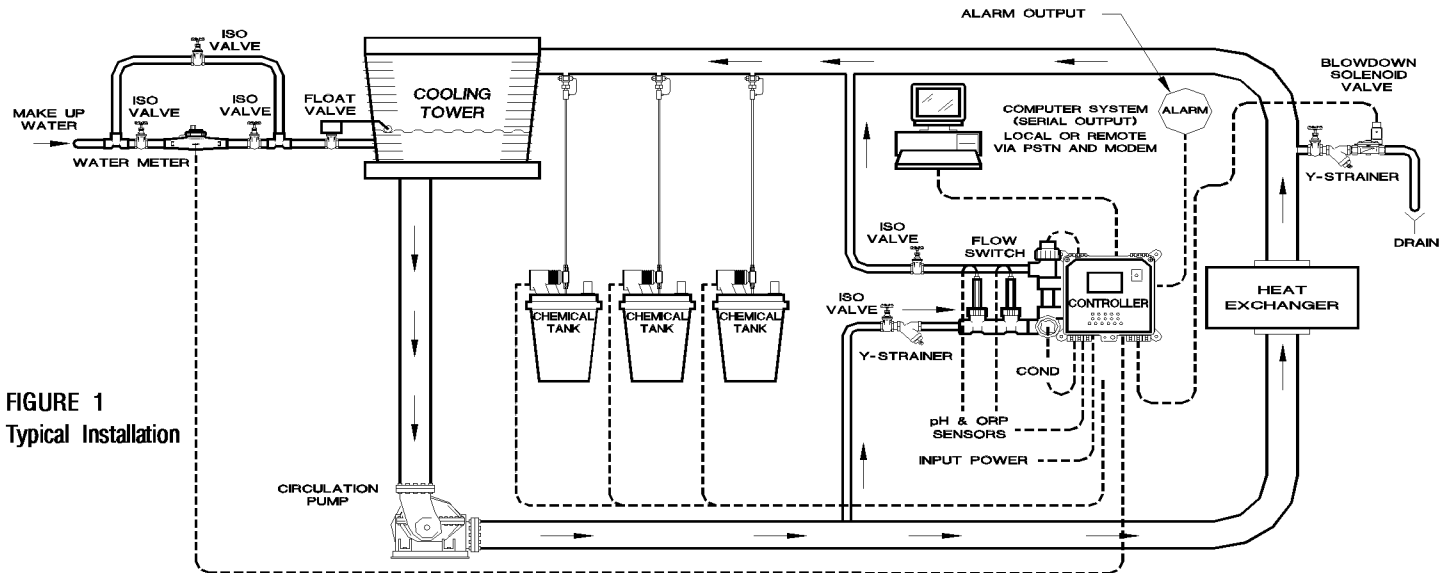

FIGURE 1
1. Install sensors or sample stream flow assembly at some point before chemical injection points, where chemical and water are thoroughly mixed. Refer to Figure 1.
5. Install hand valves on each side of the flow assembly for easy isolation and removal of sensors and strainer screens (see Fig. 1).
Controller should be per installation diagram (see Figure 1). Make sure all fittings and connections are secure:
8. External alarm, if controller incorporates alarm relay. (See Figure 1, pg. 5)